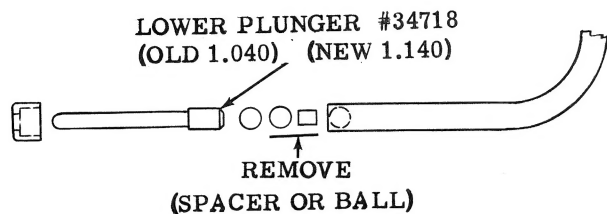

Figure 13. PLUNGER REPLACEMENT
d. Lower tube plunger was made longer. An early model plunger will extend about 13/16 inch from the tube cap while a later model will extend about 7/8 inch. An old plunger can be replaced as follows (figure 13).